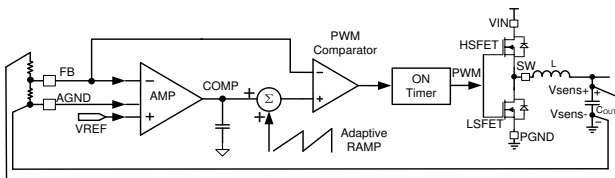

Figure 2: COT Control
The MPQ8623 employs constant-on-time (COT) control to achieve fast load transient response. Figure 2 shows the details of the control stage of the MPQ8623.
The MPQ8623 provides accurate EN thresholds, so a resistor divider (R3/R4 in Figure 2) from VIN to AGND can be used to program the input voltage at which the MPQ8623 is enabled. This is highly recommended for applications where there is no dedicated EN control logic signal to avoid possible UVLO bouncing during power-up and power-down. The resistor divider values can be determined with Equation (7):